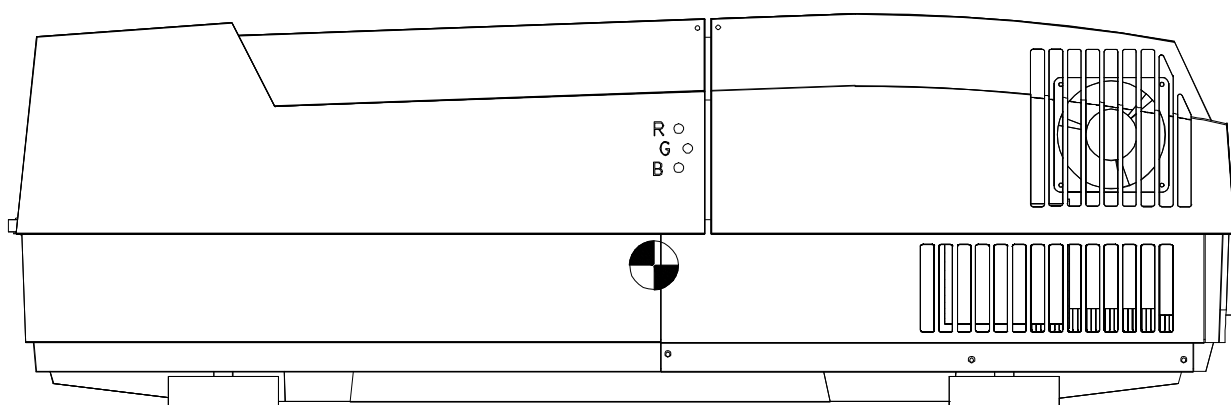

Figure 5-13. Electronic Focus adjustment screws.
The Electronic Focus adjustment focuses the electronic beam in the CRT. The adjustments are located on the right side of the projector (see *Figure 5-13*). View one color at a time for these adjustments. Start with Blue since it is the weakest
4. Adjust the Electronic Focus (see *Figure 5-13*) for a sharp focus of the H pattern at the center of the screen.